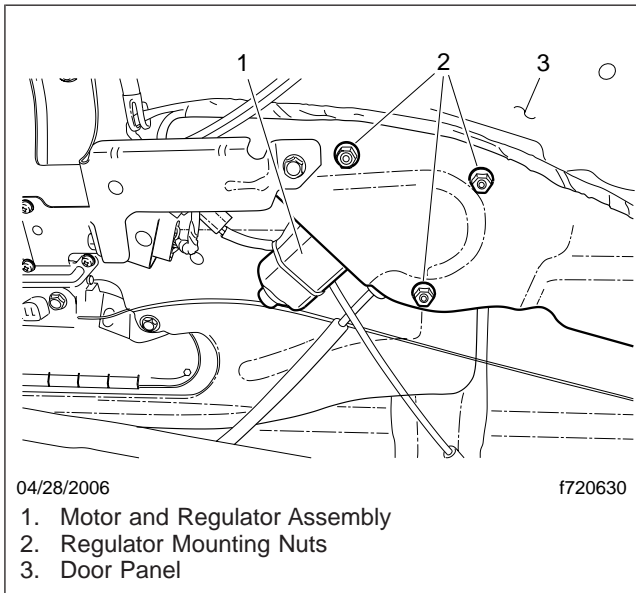

Fig. 3, Motor and Regulator Assembly Removal
10. Loosen the three nuts that attach the motor assembly to the overhanging portion of the door. Pull the motor assembly out from behind the overhang, and disconnect the electrical connector. See Fig. 3.